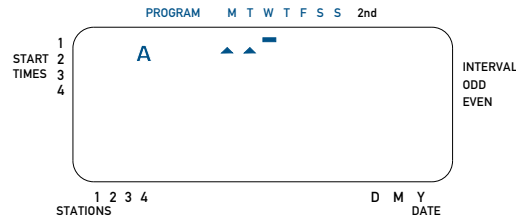

Figure 5: LCD Display with Watering Days
days of week M, T, W, T, F, S, S Monday, Tuesday, etc. [See Figure 5]
- Press **ENTER** to activate watering on Monday. An arrow appears under “M” and the cursor will advance to Tuesday (“T”), press **ENTER** to activate watering on Tuesday or **NEXT** to skip to the next day. [See Figure 5] Repeat these steps for all days of the week.